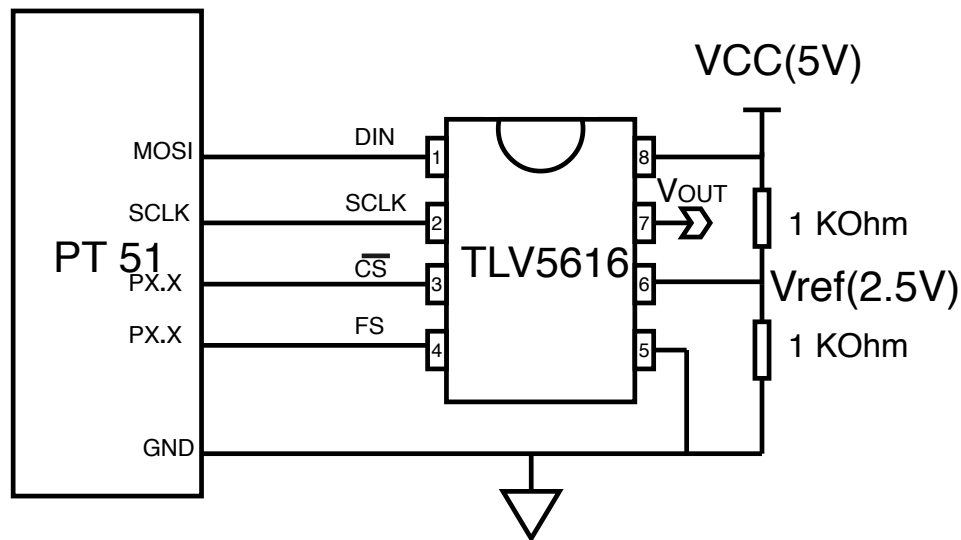

Figure 5: DAC connection diagram.
- (b) Testing your code: Make the connections as shown in Fig. 5. The serial DAC input data and the control signals are sent through I/O port 3 of the controller. The serial data is sent on the MOSI line from Pt-51, with the serial clock output on the SCLK line. P3.4 and P3.5 are configured as outputs to provide the chip select ( $\overline{CS}$ ) and Frame Sync(FS) signals for the TLV5616.